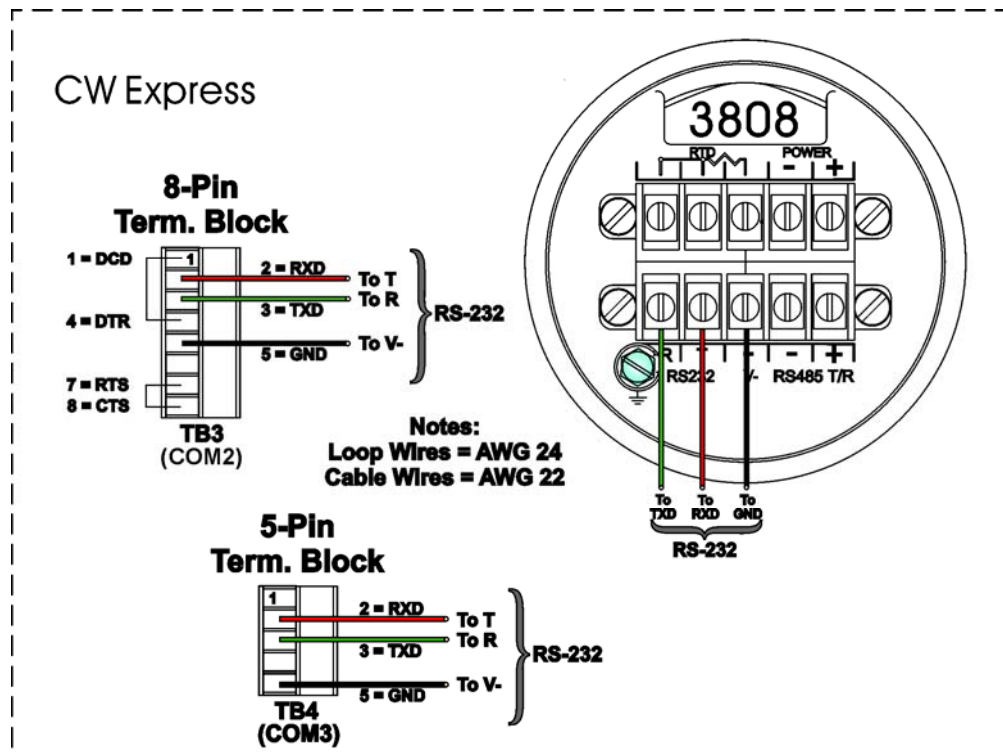
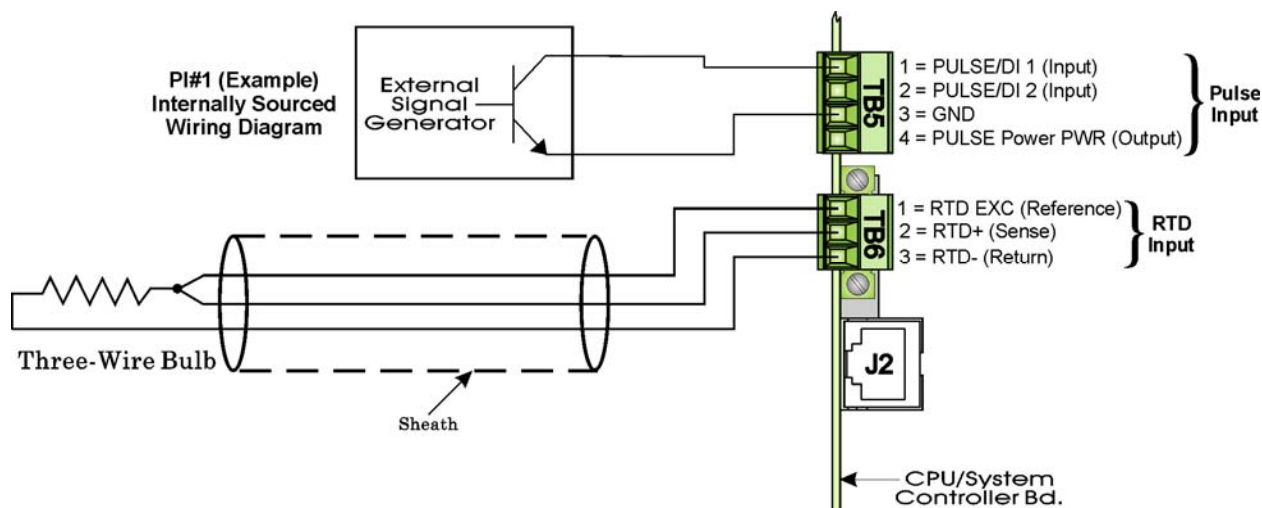

Figure C-8 - Model 3808 Transmitter to ControlWave Express
Figure C-11 - CPU/System Controller Board Field I/O Wiring Diagrams
5. Install I/O wiring to the Process I/O Board and CPU/System Controller Board (see Figures C-11 and C-12 and Section 2.3.4 if required). Install a communications cable between the ControlWave Express and a Model 3808 Transmitter (Network of Transmitters) if required (see Figures C-8 through C-10). Figures C-8 and C-9 detail the RS-232 and RS-485 wiring connections required between the ControlWave Express and the Model 3808 Transmitter.